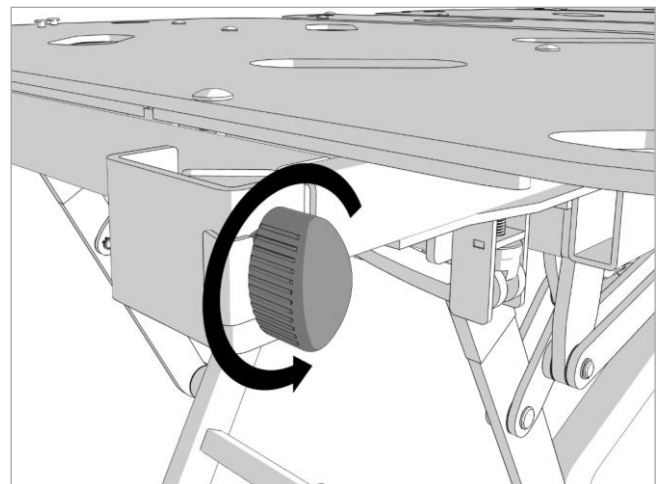

Figure 8.8
9. Loosen the handwheels on both the headboard and footboard mounting brackets as shown in Figure 8.8.